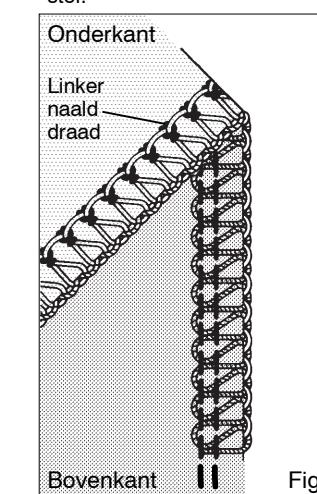

Fig. 4
Loops may hang off the edge, when you sew with lightweight fabric using 3 threads (right needle only), and setting cutting width dial at 4 - 5 (Fig. 3). In such a case change the stitch finger (A) to (B) to get neat stitching (Fig. 4).